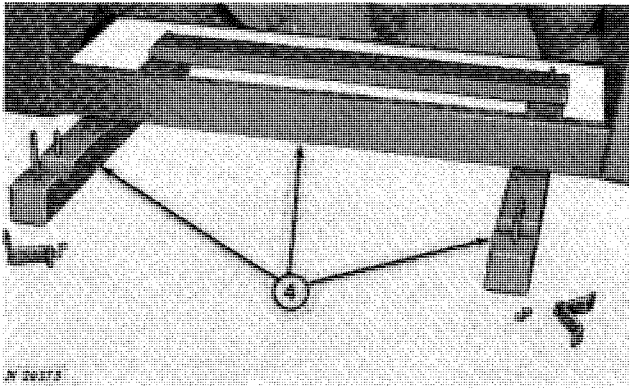

Fig. 87-Removing Shipping Skid
4. Position corn head skid under corn head frame about halfway between 4 x 4's (Fig. 87).